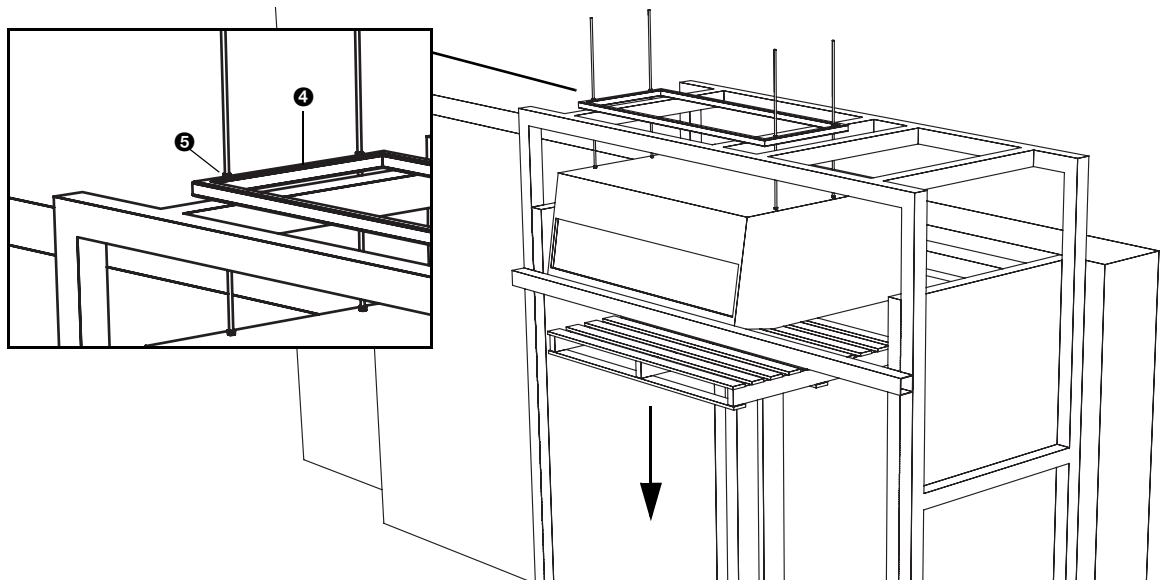

Figure 3-3 Suspending the air curtain unit to the corridor frame
1. Lift the unit by its pallet, and place it approximately into its final position, according to Figure 3-3. Use a lifting device.
2. Place the suspension frame ④ onto the thread rods, over the horizontal bars of the corridor frame.
3. Fix the suspension frame, by applying a nut ⑤ on each thread rod.